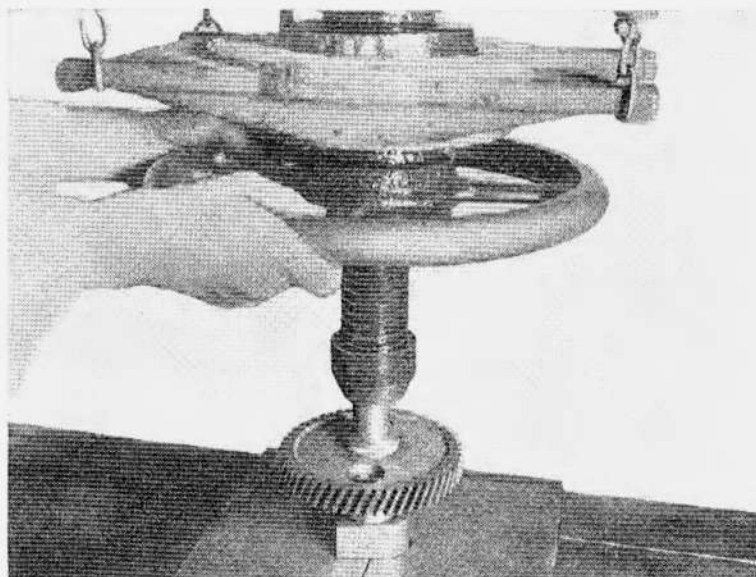

Figure 79 – Replacing Camshaft Gear
(4) To assemble camshaft gear and thrust plate to shaft, firmly support shaft at back of the front journal in an arbor press. Place thrust plate over end of shaft, make sure woodruff key is seated in shaft keyway, install camshaft gear and press into position (Fig. 79).